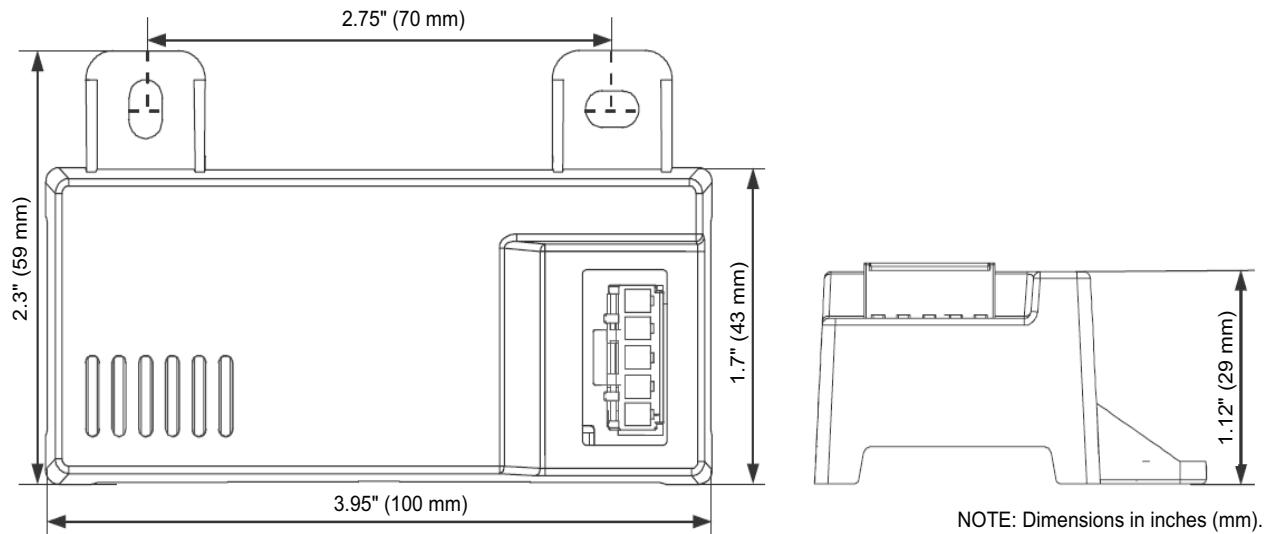
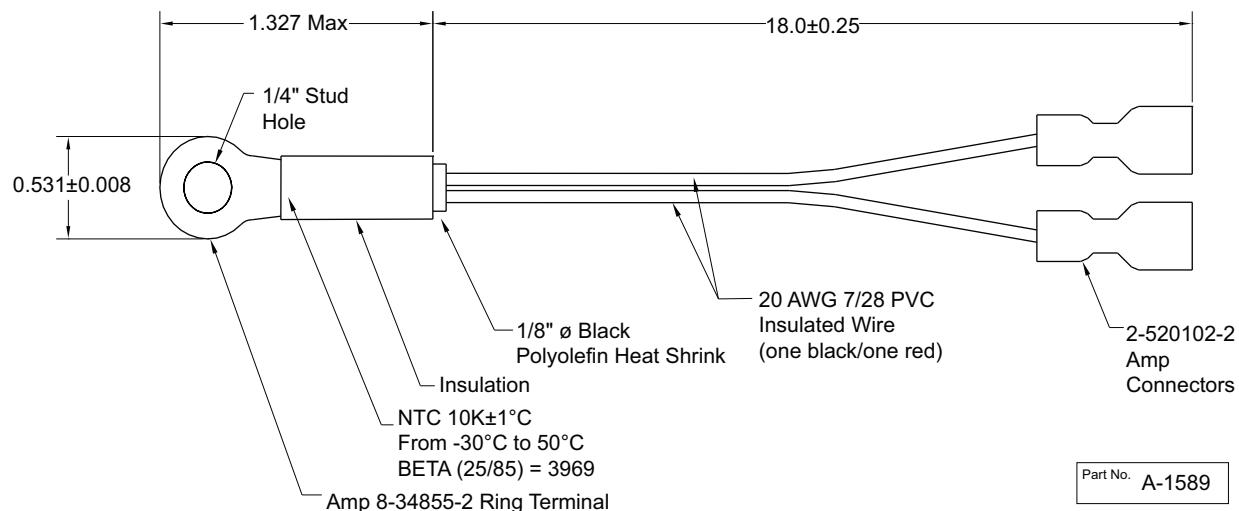
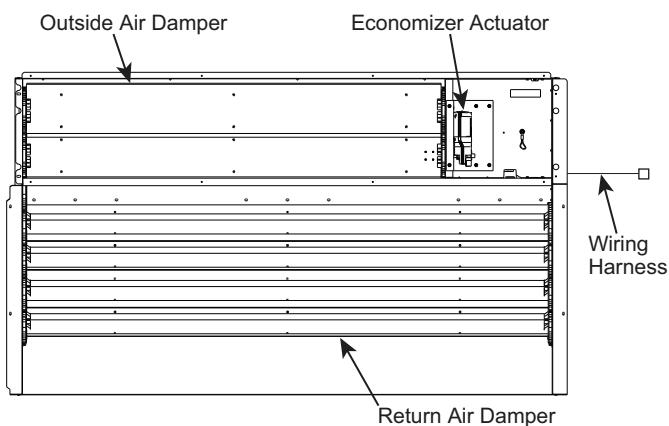

Fig. 77 – HH57LW001 Dimensional, Connection and Switching Information
Fig. 78 – HH79NZ039 Dry Bulb and Mixed Air Sensor Wiring
Fig. 79 – EconomizerONE System Component Locations
When using the HH57LW001 enthalpy sensor (see Fig. 77) for outside air changeover, the existing HH79NZ039 dry bulb sensor (see Fig. 78) must be removed. The enthalpy sensor will be mounted in the same location as the dry bulb sensor (see Fig. 79). When the enthalpy sensor's OA (Outside Air) temperature, enthalpy, and dew point are below their respective set points, outside air can be used for free cooling. When any of these are above their set point, free cooling will not be available. Enthalpy set points are configurable and create an enthalpy boundary according to the user's input. For additional details, see Fig. 80-81 and Table 24.
The optional enthalpy control sensor (P/N: HH57LW001) communicates with the POL224 economizer controller using the 5-wire harness, 48TC005213. The HH57LW001 sensor can be used as a single outside air enthalpy, a differential return enthalpy, or a differential return temperature sensor. Refer to the base unit control wiring diagrams found earlier in this book to wire the HH57LW001 enthalpy sensor for each option. See Fig. 77 and Table 26 on page 69 to locate the wiring terminals for each enthalpy control sensor.
Economizers are shipped standard with an HH79NZ039 outside air dry bulb sensor (refer to Fig. 78). System default setting (high temp limit) is 63°F (17°C) and has a range of 48°F to 80°F (9°C to 27°C). Sensor is factory installed on economizer.
If installing the optional HH57LW001 enthalpy sensor, the HH79NZ039 dry bulb outside air sensor must first be removed. Wire sensor to harness 48TC005213 and the (5) wires from the harness to the EconomizerONE harness in the return air chamber. Harness 48TC005213 has a 5-pin plug that connects directly to the HH57LW001 enthalpy sensor. Refer to the base unit control wiring diagrams earlier in this book for wiring connections. Refer to Fig. 77 and see Table 26.